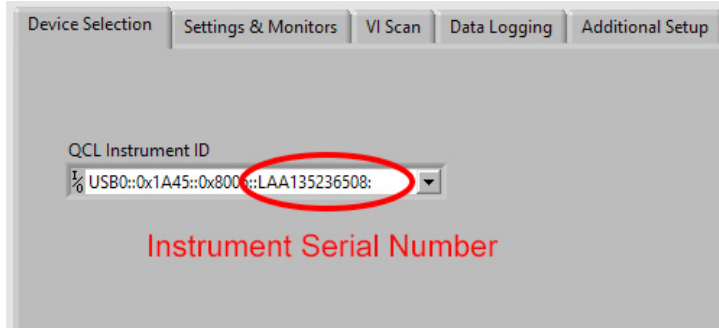

Figure 1. Device Selection Tab
3. On the **Device Selection** tab, in the *QCL Instrument ID* field, choose the instrument to communicate with. The instrument is identified by the Serial Number, as shown in **Figure 1**.